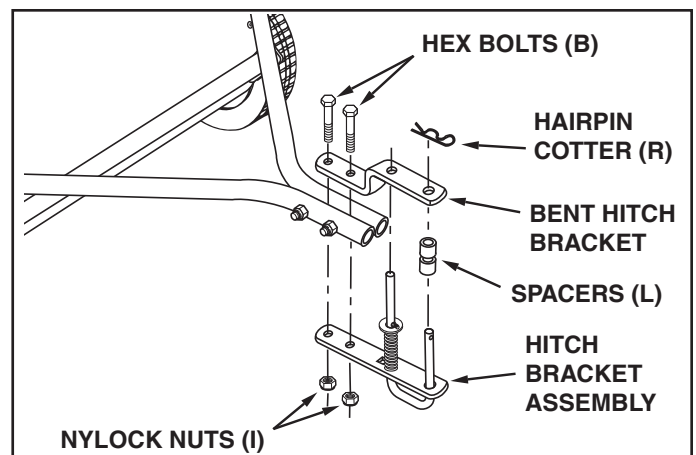

FIGURE 10
- If the tractor hitch is 10" or more above the ground, assemble the hitch brackets as shown in figure 10. Insert two hex bolts (B) through the brackets, with the rear hex bolt between the cross bolts in the hitch tubes. Secure the hex bolts (B) with two nylock nuts (I). **Do not tighten yet.** See figure 10.
- Assemble the two spacers (L) onto the hitch pin and secure the pin with the hairpin cotter (R). See figure 10.